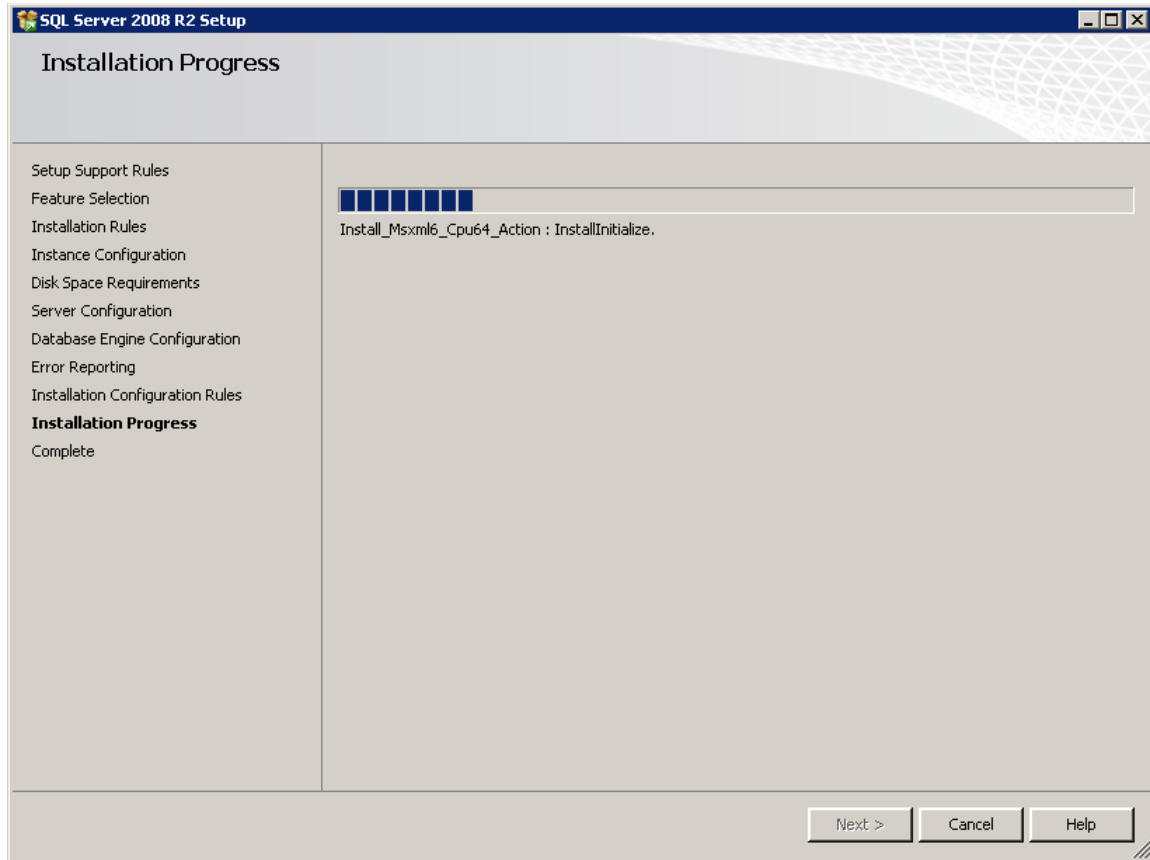

Figure 2-8 SQL Server 2008 R2 Setup – Installation Progress
14. *Error Reporting*: It is not necessary to select any of the options. Click the *Next* button. *Installation Progress*: The progress bar and status will update until the installation is complete (Figure 2-8).